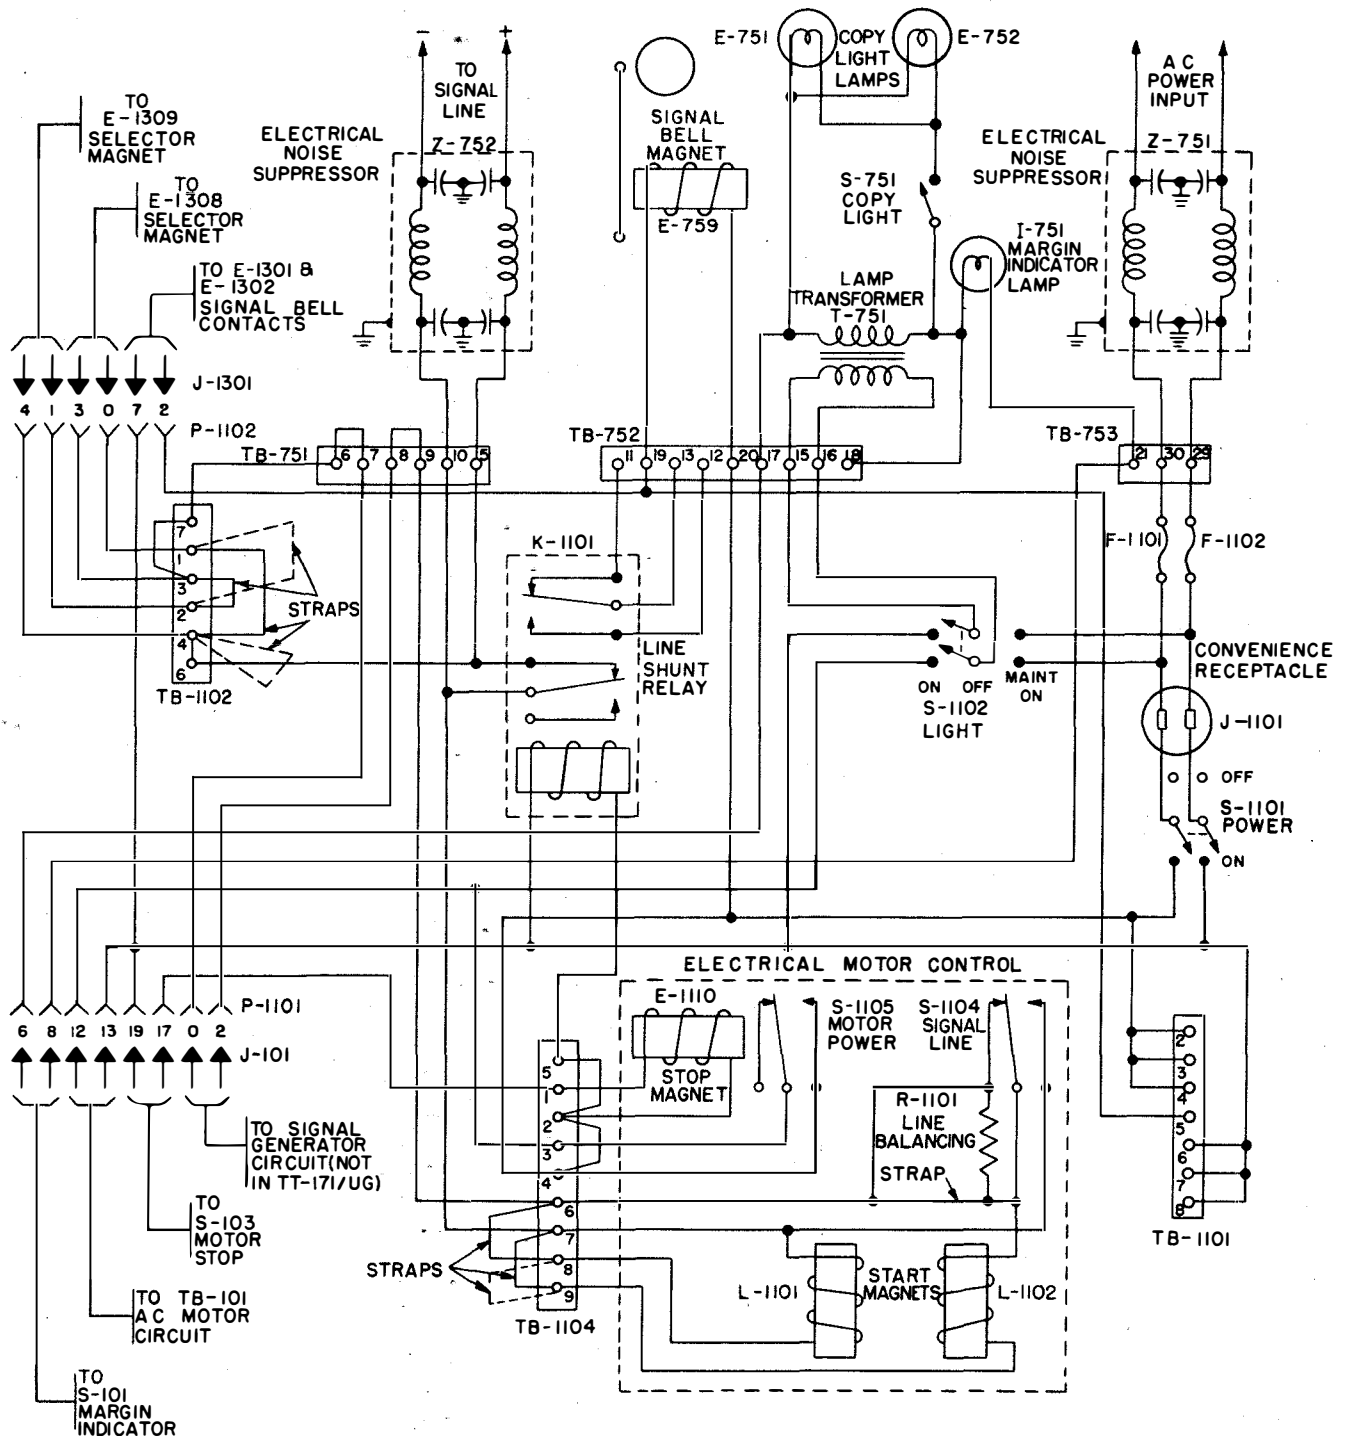

Figure 2-79. Power Distribution Panel SB-154A/UG and Cabinets CY-870/UG and CY-871/UG, Schematic Wiring Diagram
up power at TB-1101, and connects with the motor power switch S-1105 in the electrical motor control mechanism at TB-1104. The signal line circuits from both the Keyboard and the Automatic Typewriter connect with TB-751, where they may be arranged for either single loop or double loop operation. In addition, wires from the selector magnets E-1308 and E-1309 in the Automatic Typewriter connect with terminal board TB-1102 in the Power Distribution Panel. Two strap wires on TB-1102 which connect E-1308 and E-1309 "in parallel" for 0.060 ampere signal line current operation may be re-arranged (dashed lines in figure 2-79) to connect E-1308 and E-1309 "in series" for 0.020 ampere operation.
c. ELECTRICAL MOTOR CONTROL MECHANISM.—The electrical motor control mechanism is mounted in the center of the Power Distribution Panel. All connections to this mechanism are made through its terminal board TB-1104. The purpose of the mechanism is to start the AC motor when the signal line current is interrupted, and, in conjunction with the time delay mechanism in the Keyboard, to stop the AC Motor if the signal line becomes idle for a period of not longer than approximately two minutes. In the equipment as furnished, the start magnets L-1101 and L-1102 in the electrical motor control mechanism are wired in parallel for 0.060 ampere signal line current operation. For 0.020 ampere operation, the strap wires on TB-1104 may be rearranged (dashed lines in figure 2-79) to connect L-1101 and L-1102 in series. Also, the strap across the line balancing resistor R-1101 must be removed for 0.020 ampere operation. The resistor R-1101 is switched into the line circuit by S-1104 when the start magnet coils are switched out, in order to compensate for the loss of their resistance and to minimize unbalance in the line circuit. There are two types of motor control mechanisms: one starts the motor on BREAK operation, the other starts the motor on MAKE after BREAK operation. The following paragraphs describe the operations of the two electrical motor control mechanisms through a complete cycle.